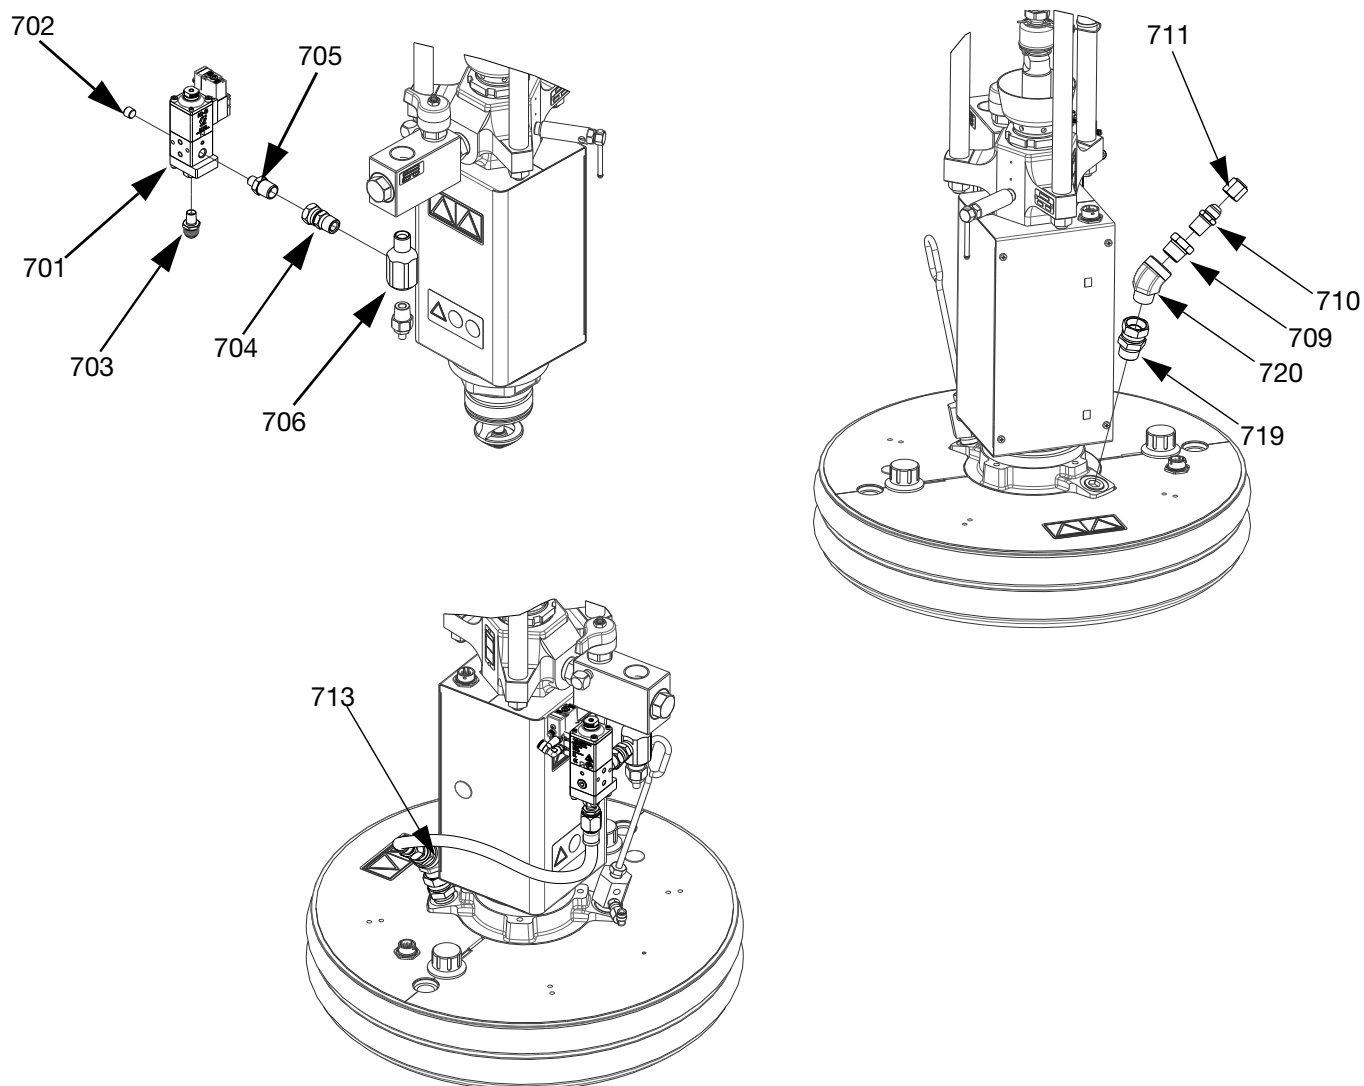

FIG. 54: Platen Valve Kit, Urethane, 26B637
2. Disconnect the pressure transducer from port 5 on the Electric Driver (AB).
3. Remove the pressure transducer fitting (TF) and the fitting it is attached to from the Fluid Check Valve (AE).
4. Using thread tape, install the 1/2 NPT tee fitting (706) into the Fluid Check Valve (AE), then reinstall the pressure transducer fitting (TF) into the bottom of the 1/2 NPT tee fitting (706).
5. Using thread tape, install the 1/2 NPT swivel (705) into the 1/2 NPT tee fitting (706). See FIG. 54.
6. Install the platen valve (701) onto the 1/2 NPT swivel fitting (706) using the 1/4 NPT x 1/2 NPT adapter (704), then tighten.
7. Install the recirculation hose (713) onto the platen valve (701) and tighten.
8. Reconnect the pressure transducer to port 5 on the Electric Driver (AB).